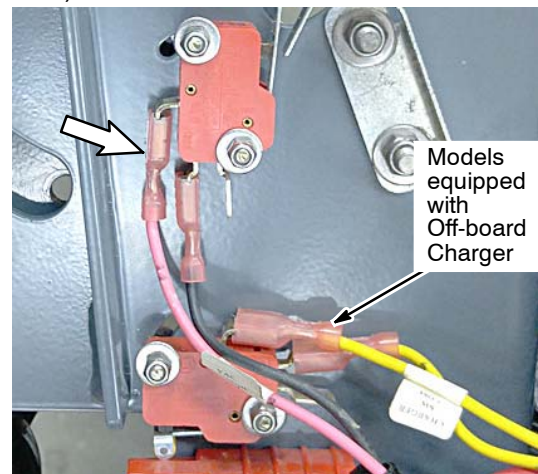

FIG. 6
6. Reconnect wires to squeegee lift lever assembly (FIG. 6).